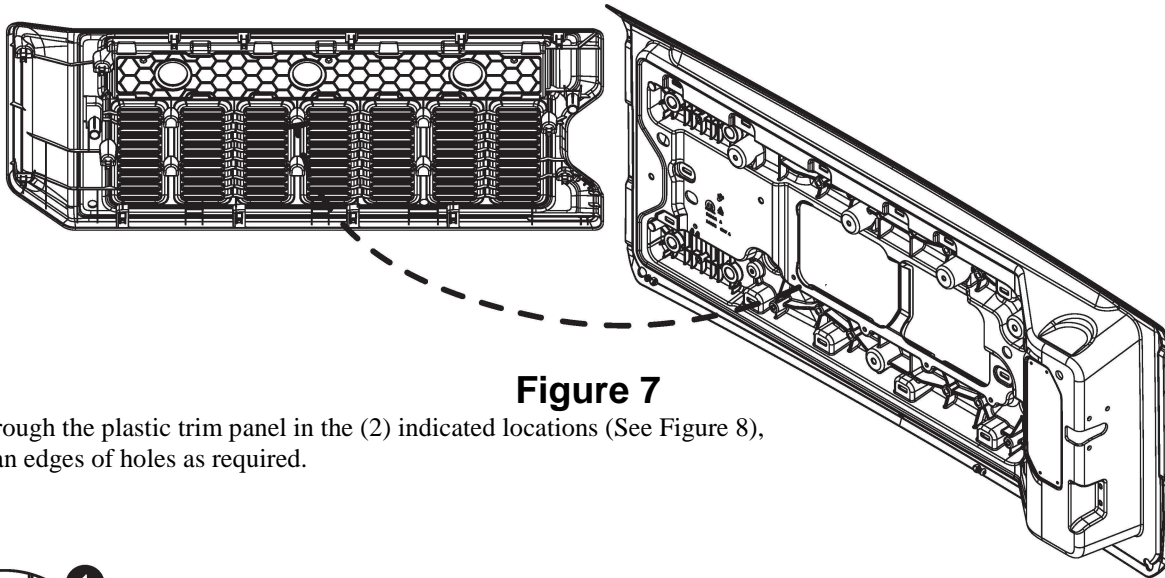

Figure 7
10. Remove the trim panel from the inner surface. See Figure 7